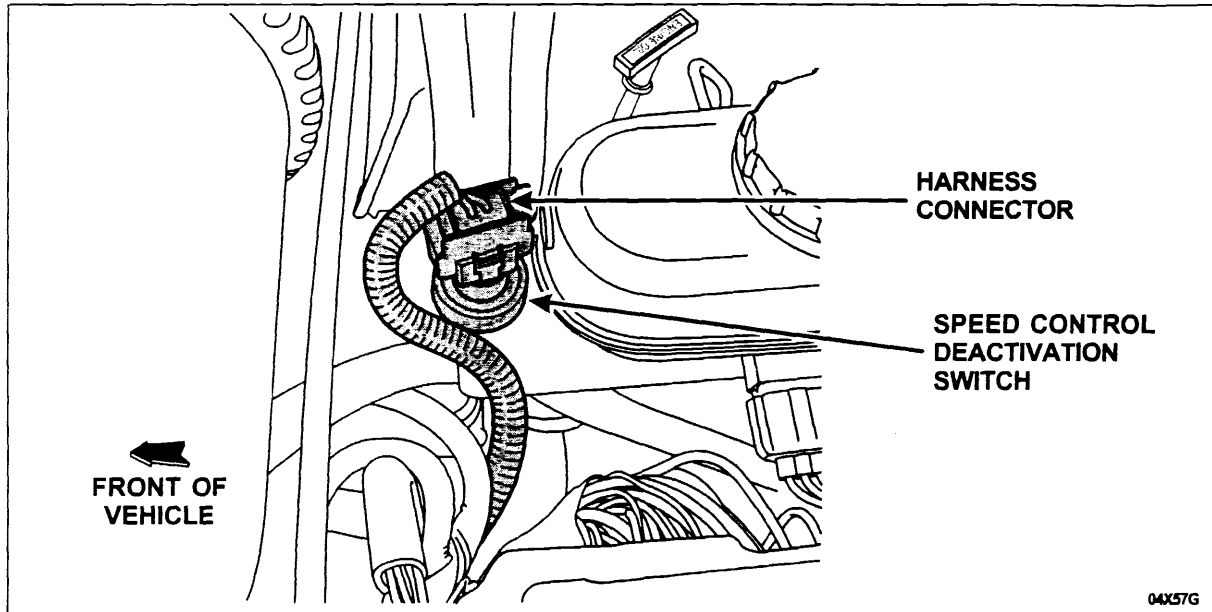

FIGURE 7
2. Disconnect the Speed Control Deactivation Switch located on the brake master cylinder. See Figure 7.